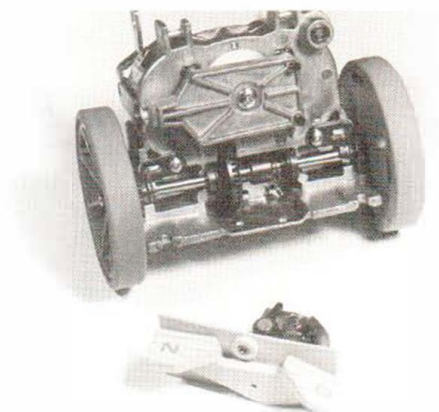

Figure 25. Rear View of Transmission
- L. *See Figure 25.* After rear axle is completely assembled, move the left bearing to the right toward the clutch half overload gear assembly. Insert left axle bushing into left bushing sleeve of transmission casting, with tab pointing up, and right side of axle angled away from transmission.